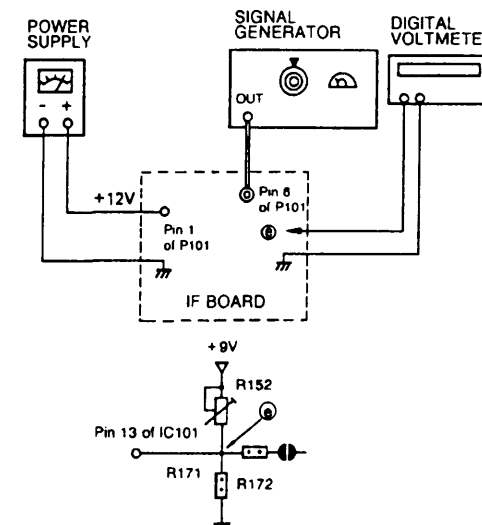

Fig. 3
**General:** Refer to fig. 3 for test equipment connection.
**DVM:** Connect to the resistor R171 (e in fig. 3) and ground.
\* Adjust R152 for 4.5 volts at the point e in fig. 3.
\* Connect IF carrier wave to the pin 6 of P101 in fig. 3.